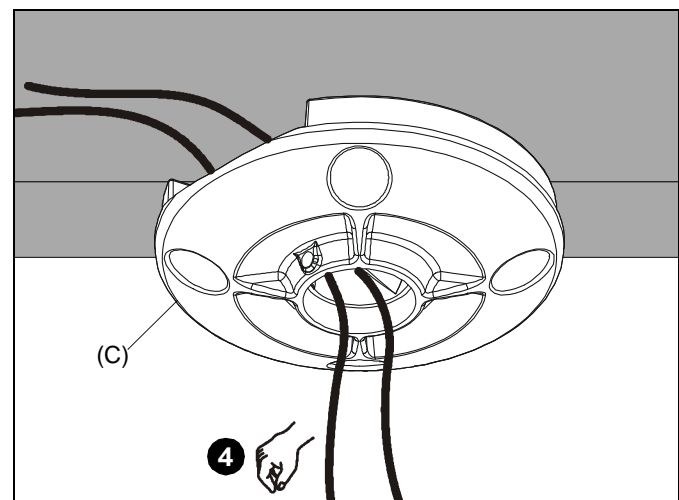

Figure 3
- Route cables through channel in ceiling plate (C). (See Figure 3)